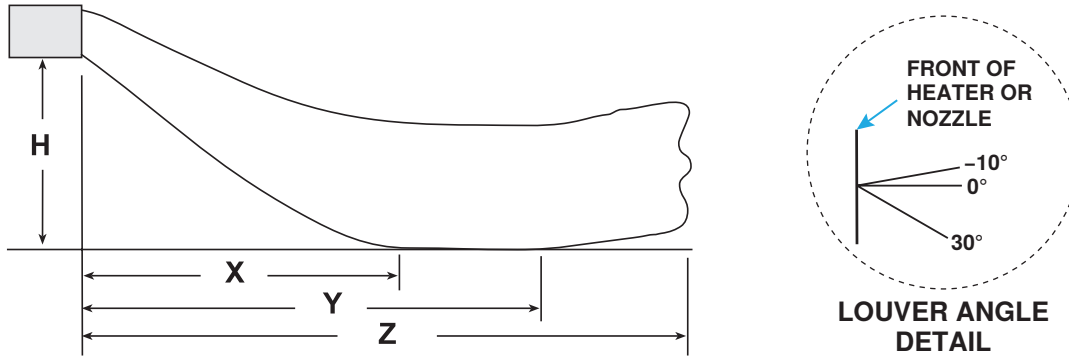

Figure 1. Heater Throw Patterns (Refer to Table 1)
Figure 1 shows throw patterns for fan model units. **Table 1** lists throw distances for standard, adjustable horizontal louvers at the angles listed. The throw pattern changes with the addition of optional vertical louvers and/or downturn nozzles. Throw distances for units with downturn nozzles are listed in the downturn nozzle kit installation manual provided with the kit.
*See **Figure 1**.